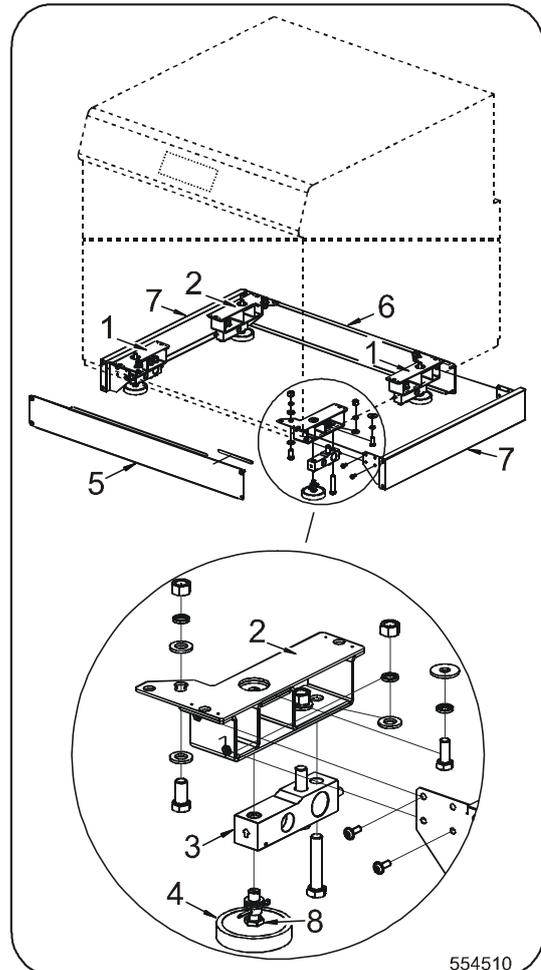
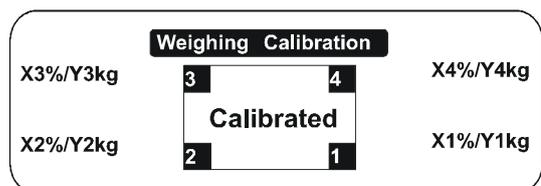
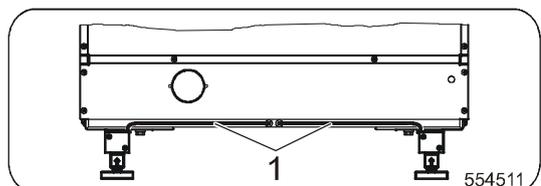

Figure 6
Figure 7
Figure 8
- Lift up the machine. Install two left load sensor supports and two right load sensor supports (pos.1 and 2) to the machine frame as shown in figure 6.
- Install load sensors (3) with their rubber feet (4) onto the supports.
- Fit the sensor cables into the prepared openings with cable fixtures as shown in figure 8, pos. 1.
- Install the covers (5), (6), (7).
- Check and if necessary adjust the height of the load sensor feet so that an even load distribution among all the load sensors is ensured - see figure 7.